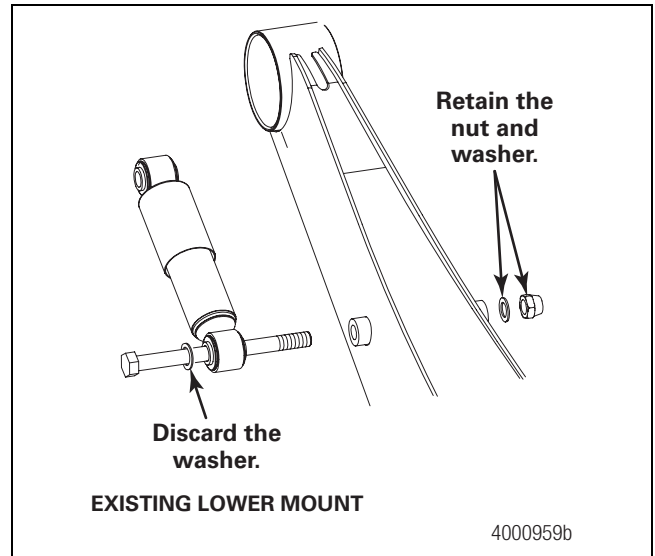

Figure 9.29
5. Remove the 7/8-inch (22.23 mm) nut and 7/8-inch x 1-3/4-inch O.D. (22.23 x 44.45 mm) washer from the LOWER shock absorber mounting. Do not discard this washer. Figure 9.29.
4. Remove the 7/8-inch (22.23 mm) nut and 7/8-inch x 1-3/4-inch O.D. (22.23 x 44.45 mm) washer from the LOWER shock absorber mounting. Remove the lower bolt and washer from the shock absorber. Discard the washer that's under the bolt head. Figure 9.29.